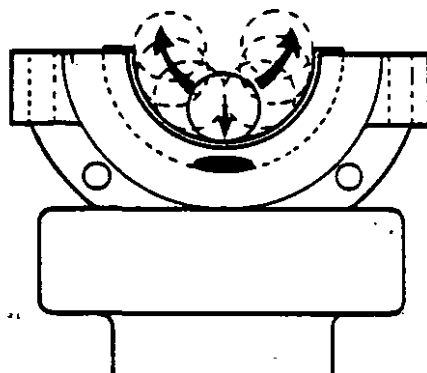

Figure 6. INSTALLING PACKING
4. Put a packing on the retainer and then push it into the groove with the smooth handle of a screwdriver. Push the handle down on the centre of the packing and slide the handle from the centre to each end of the packing. **DO NOT** roll the handle when pushing the packing into the groove. See Figure 6.